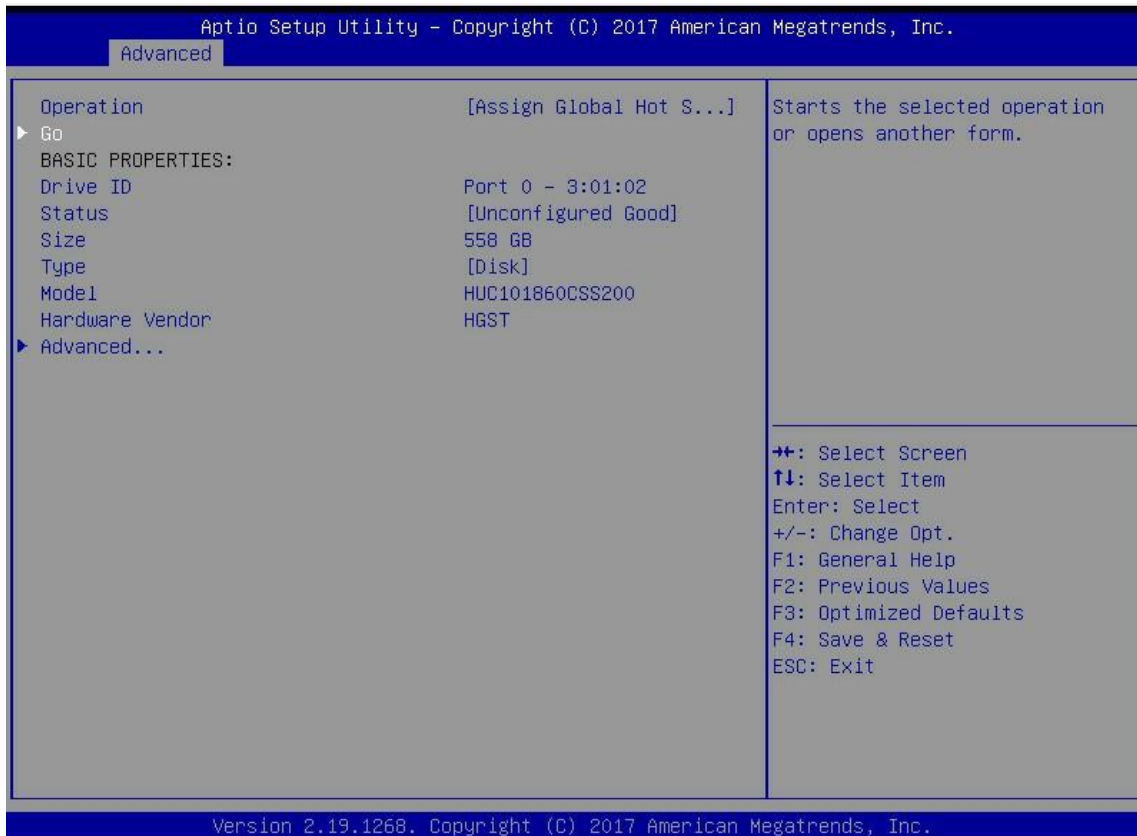

Figure 6-22
- d) Enter the interface shown in Figure 6-22, select go and press enter.